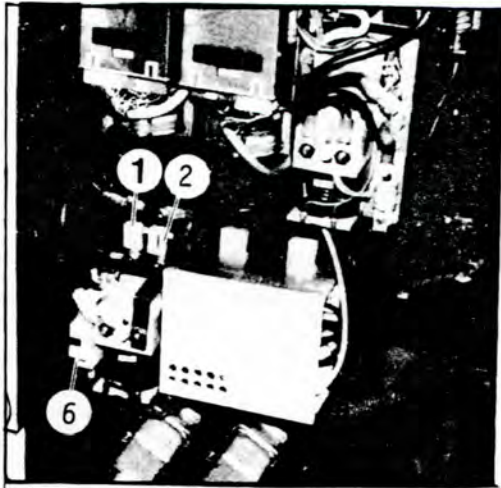

Fig. 33
- 2.1 Traction Motor (1 Fig. 33) 160A.
- 2.2 Hydraulic Pump Motor (2 Fig. 33) 250A.
2.6 Steer Motor - Automatic Fuse (6 Fig. 33) 25A.